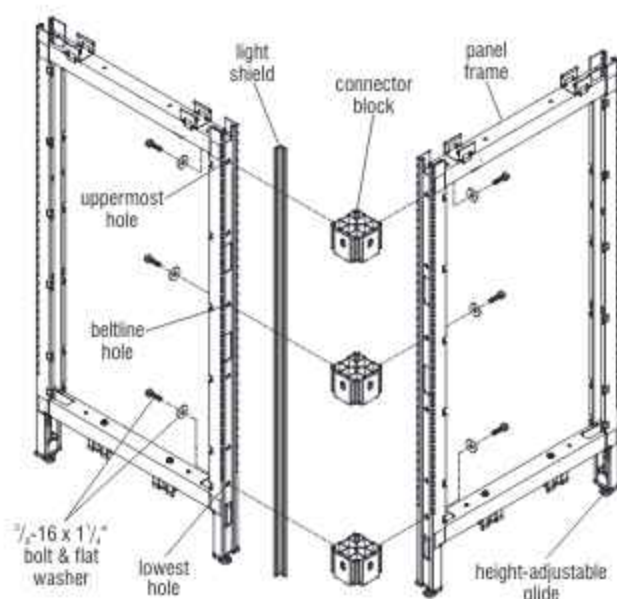

Figure 3 - 2-Way 90°, "L" Corner Intersection
2. Loosely attach connector blocks to one vertical panel frame using one  $\frac{3}{8}$ -16 x  $1\frac{1}{4}$ " hex head bolt and large flat washer per connector block (Figures 3, 4 & 5). Attach one connector block at the lowest mounting hole in the frame, one at the highest, and the third approximately 30" from the floor, near beltway height. If the panel frame is only 32" high, use only two connector blocks, one at the top and one at the bottom (See Detail C - "Panel Connector Block Charts," page 5).
3. Have one person hold the panel frame (with connector blocks). Then attach the next panel frame to the first panel frame using hex head bolts and flat washers. Hand-tighten hardware until all intersection connections are made (Figures 3, 4 & 5).
4. Tighten all hex bolts at intersections, then level the panel frames, twisting the height-adjustable glides in or out (Figures 3, 4 & 5).